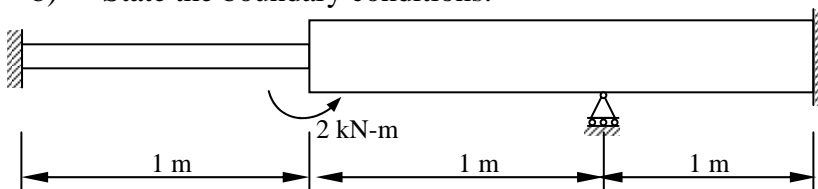

Fig. 2
- 3.a) Formulate global stiffness matrix and global load vector for the beam shown in fig.2